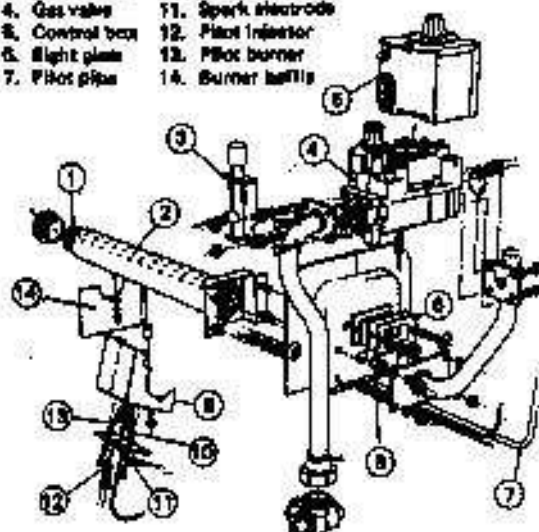

Fig. 19
When replacing a defective main burner bar, it is most important that the baffle (14) (refer Fig.19) is fitted to the new burner.
1. The pilot flame impinges on the thermocouple head and that the position of the thermocouple relative to the pilot burner, and the main burner, is as shown by Fig.19.